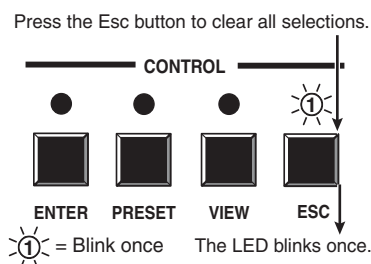

Figure 3-38 — Clear all selections
1. Press and release the Esc button (figure 3-38).